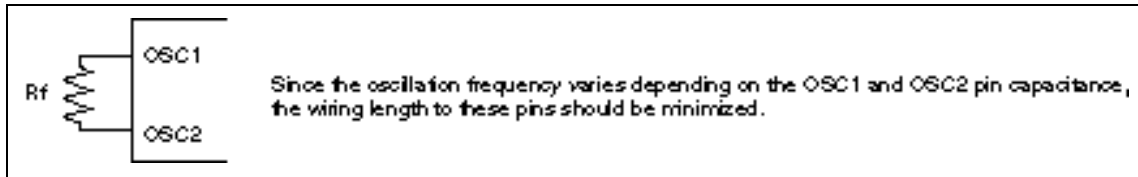

Figure 56 Internal Oscillation
10. Applies to the internal oscillator operations using external oscillation resistor R_f (figure 56 and table 31).